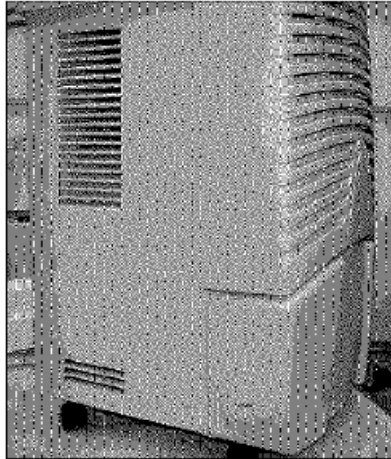

Figure 1
- The bucket and float must be installed correctly for proper operation (Figure 1).